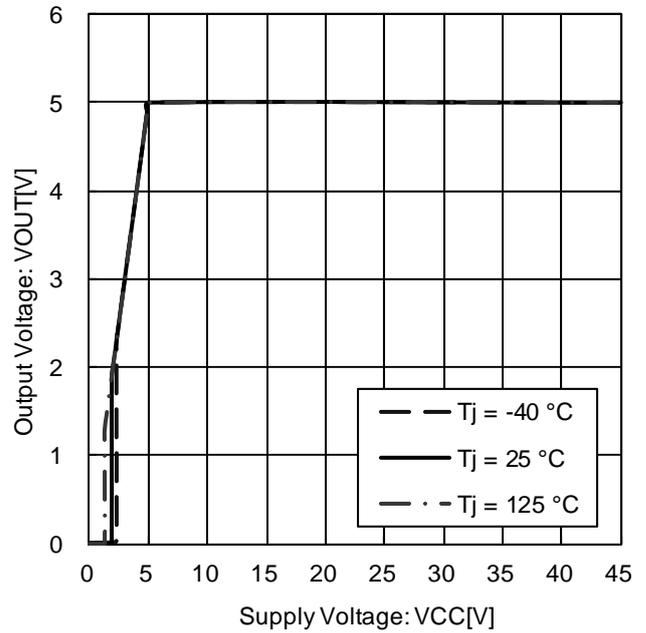

Figure 24. Output Voltage vs. Power Supply Voltage ($I_{OUT} = 0\text{ mA}$)
*magnified Figure 24. at low supply voltage